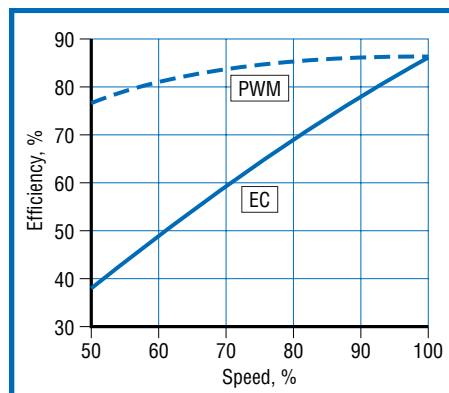

Figure 1. Combined motor and drive efficiency vs. speed.
Figure 1 shows typical combined drive and motor¹ efficiencies for a new, pulse-width-modulated (PWM) drive and an older eddy-current (EC) drive when connected to a centrifugal load, such as a pump or fan. There is obviously a dramatic difference in drive efficiency at reduced speeds.